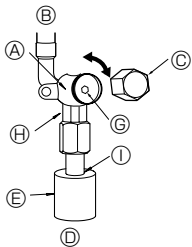
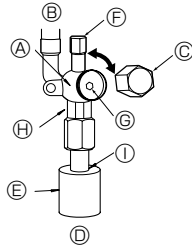

Fig. 4-5
Fig. 4-6
(1) Gas side of P100-P140 (Fig. 4-5)
- ① Remove the cap and turn the valve rod counterclockwise as far as it will go with the use of a 5 mm hexagonal wrench. Stop turning when it hits the stopper. (ϕ 15.88: Approximately 13 revolutions)
- ② Make sure that the stop valve is open completely and rotate the cap back to its original position.
(2) Liquid side of P100-P140 (Fig. 4-6)
- ① Remove the cap and turn the valve rod counterclockwise as far as it will go with the use of a 4 mm hexagonal wrench. Stop turning when it hits the stopper. (ϕ 9.52: Approximately 10 revolutions)